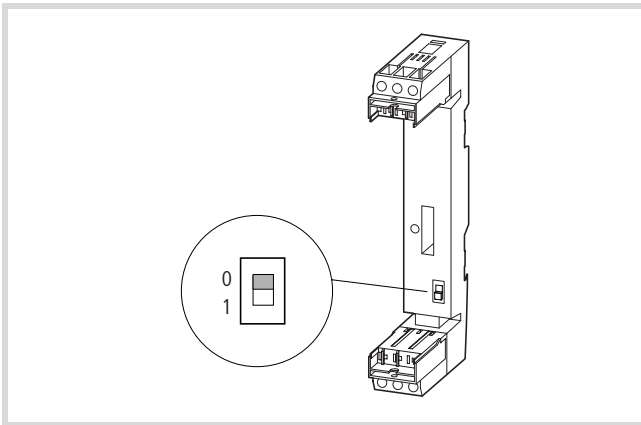

Figure 42: XS1 module: position of auxiliary switch
- Place the auxiliary contact of only the last xStart-XS1 module into the ON (closed) position (→ fig. 42).